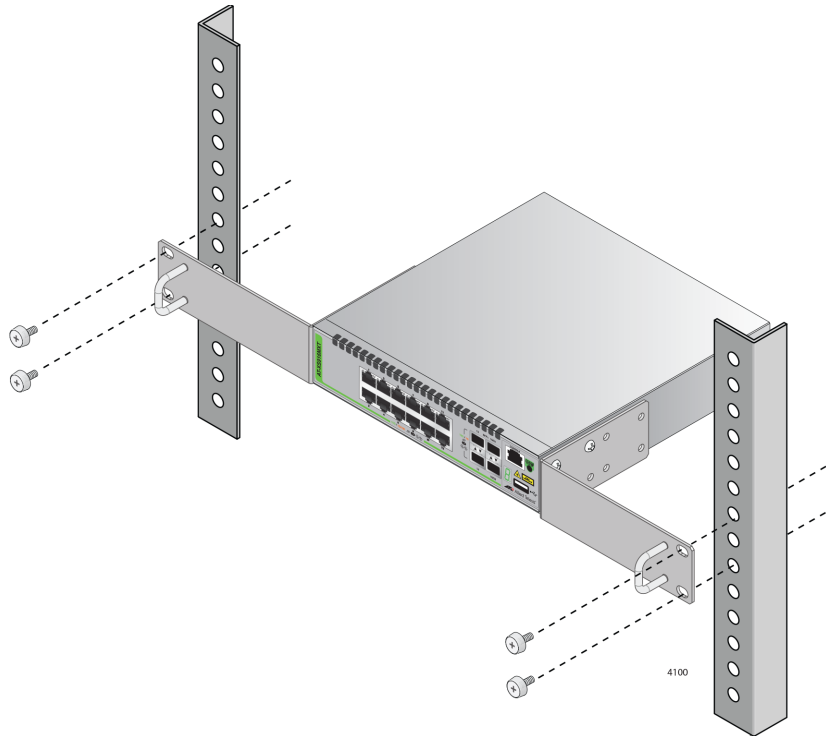

Figure 19. Mounting the Switch in an Equipment Rack
7. While another person holds the switch in the equipment rack, secure it with standard equipment rack screws as shown in Figure 19.